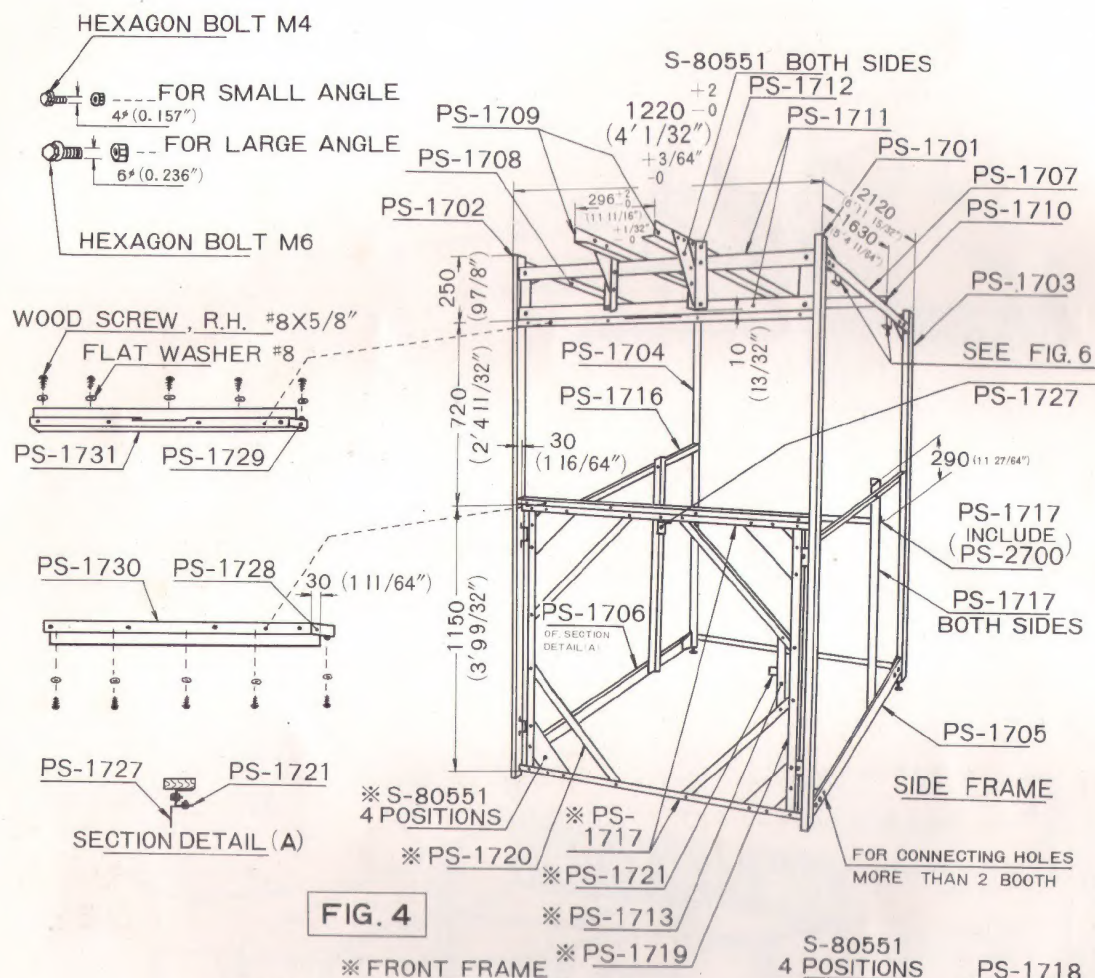

FIG. 4
2. Assemble the front frame as shown in Fig. 4.
3. Assemble the main side frames (left and right) and then connect, with screws, the rear and front framework to the side-frames as shown in Fig. 4.
4. Put the assembled roof frame on the top with the two extended bars (PS-1709) facing front. (Bars used for mounting periscope) See Fig. 4.
5. Screw the wood bars (PS-1728 and 1729) as shown in Fig. 4.
6. Mount the small angle bars (PS-1716) on the middle of the side frames as shown in Fig. 4.
7. Mount the small angles (PS-1717) from the small middle bar (PS-1716) to the bottom bar (PS-1705) as shown in Fig. 4.